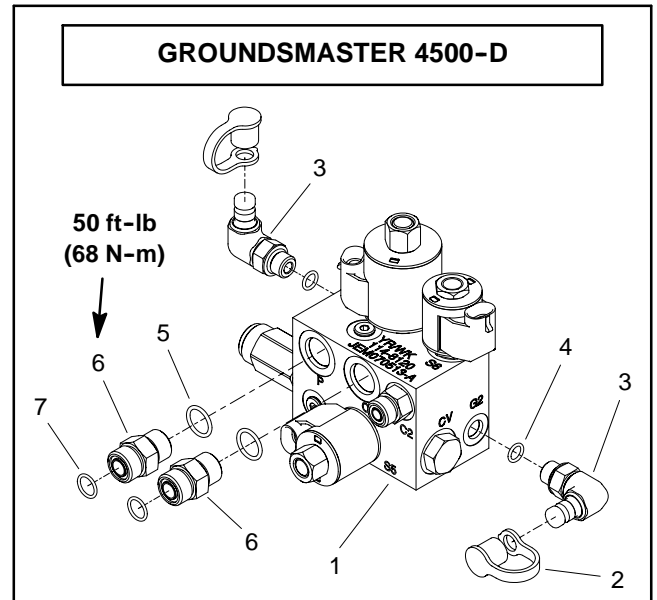

Figure 98
8. If hydraulic fittings are to be removed from lift control manifold, mark fitting orientation to allow correct assembly (Fig. 98 or 99). Remove fittings from manifold and discard O-rings.
1. If fittings were removed from lift control manifold, lubricate and place new O-rings onto fittings. Install fittings into manifold openings using marks made during the removal process to properly orientate fittings. Tighten fittings (see Hydraulic Fitting Installation in the General Information section of this chapter). Refer to Figure 98 or 99 for fitting installation torque.